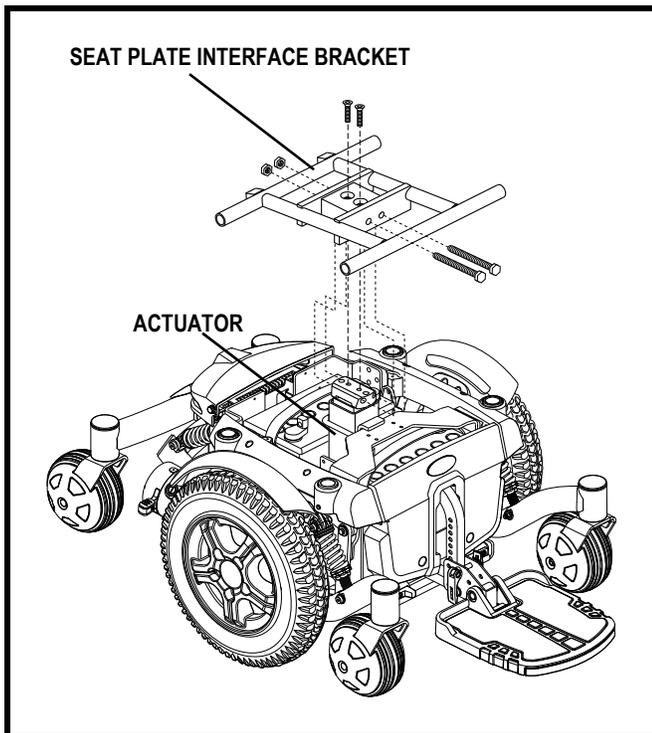

Figure 14. Power Seat Actuator
1. Place the seat plate interface bracket onto the actuator. **See figure 14.**
2. Insert screws into the actuator and insert and tighten the hardware. **See figure 14.**